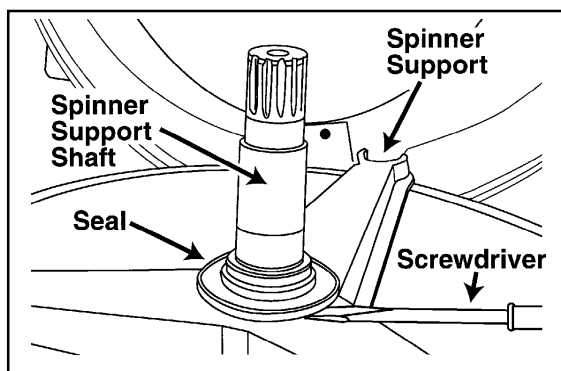

Figure 7-8
7. Remove the shaft seal (**Figure 7-8**).
3. With a flathead screwdriver, pry the seal carefully off the tub support shaft (*Figure 7-8*).